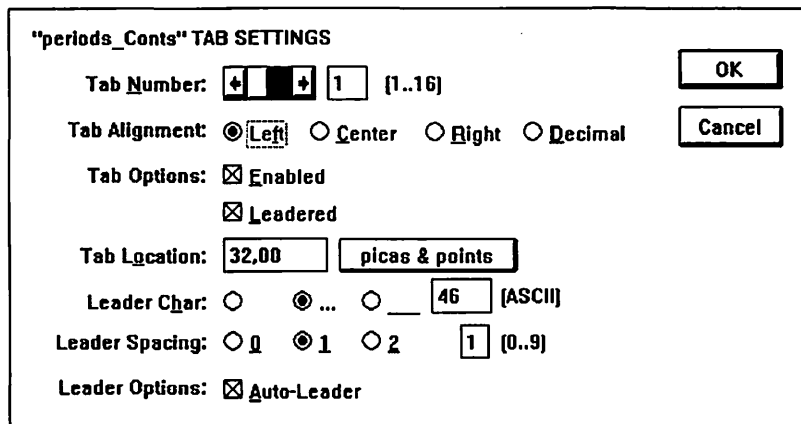

FIGURE 10-6 The leadered Tab Settings, under Ventura's Paragraph menu, for our dotted rules.
3. Also in the Tab Settings dialog box, we clicked on the *Enabled* and *Leadered Tab* Options to select them. We then made sure the *Leader Char.* option was set for a dotted line and that the Leader Spacing was set to 1. Finally, we clicked on the *Auto-Leader* option to select it as well (Figure 10-6).